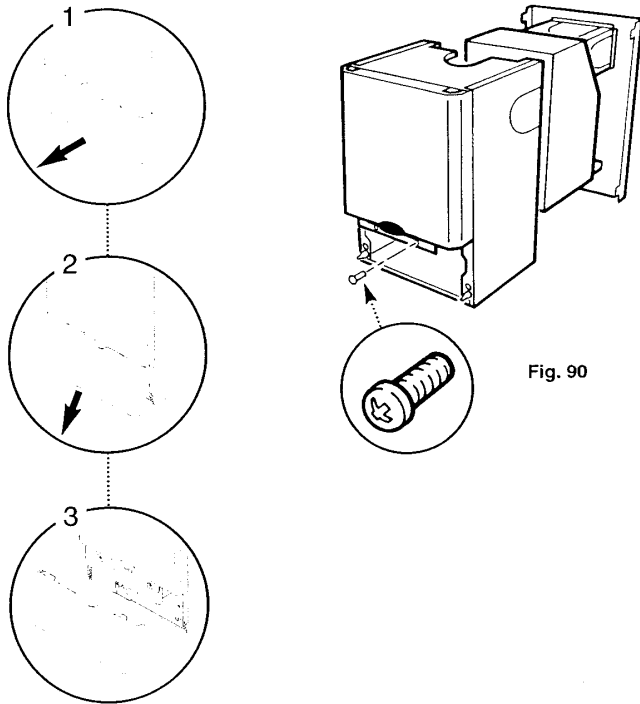

Fig. 89
5. Remove the outer case lower door panel by following the sequence of diagrams (Fig. 89).